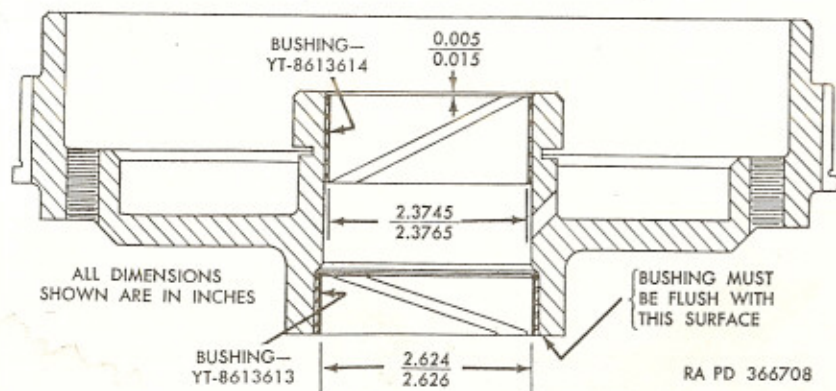

Figure 179. Sectional view of reduction clutch drum assembly (303M).
d. Clutch Drum Front and Rear Bronze Thrust Washers (E and Q) and Clutch Drum Steel Backing Washer (R). Check thrust washers for nicks or burrs and clean up with crocus cloth if damage is slight. Measure thrust washer thickness (par. 171) and replace if worn.
e. Clutch Drum Assembly (F).
- (1) Inspect clutch drum splines for nicks, cracks, or visible wear. Replace drum if these conditions are evident.
- (2) Blow out oil passages in hub with compressed air. Probe passages with welding rod if restricted.
- (3) Check all tapped holes for damaged threads.
- (4) Be sure oil seal groove in hub is clean and not damaged.
- (5) Examine direct clutch piston seal contact area for nicks or burs. Remove nicks or burs with crocus cloth if damage is slight. If damage is too evident, replace direct clutch piston.
- (6) Inspect keyway in clutch drum for damage or wear.
- (7) Measure clutch drum bushings for wear or damage. If necessary to replace bushings, remove bushings with suitable tool; then press new bushings into clutch drum hub. Bushings must be installed and finished to dimensions shown on figure 179.
f. Direct Clutch Piston (J).